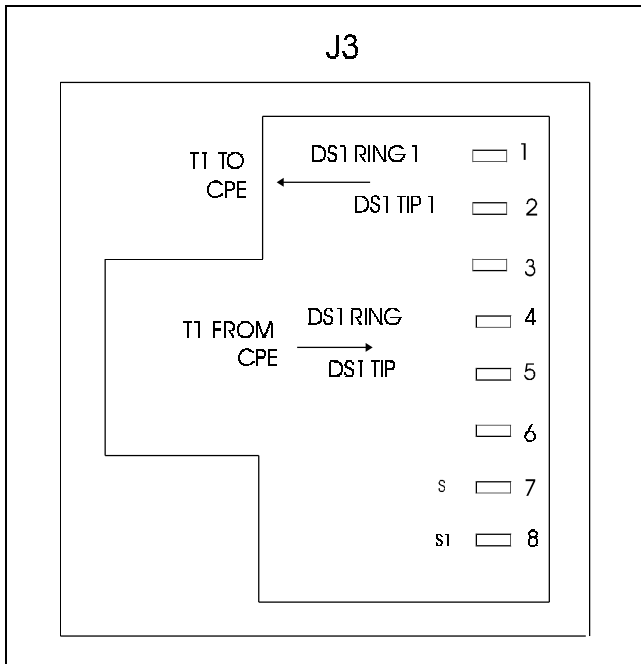
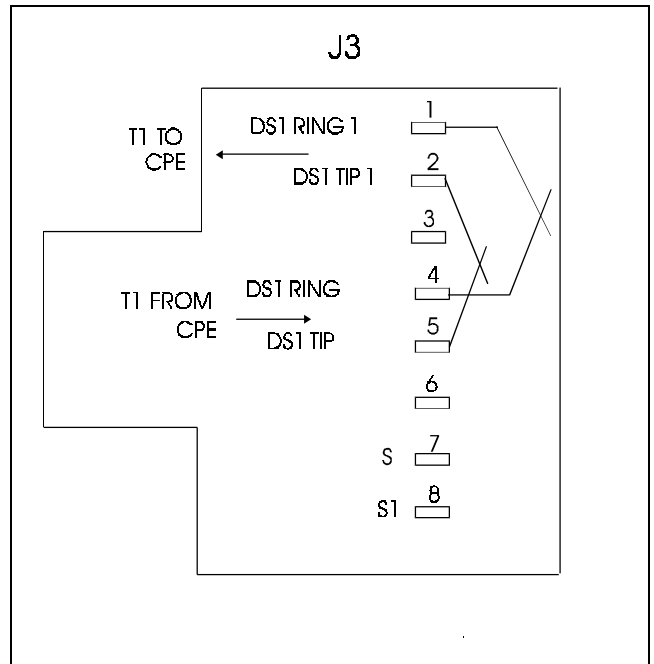

Figure 5. List 1 RJ-48C Pin Assignments.
Figure 6. List 2 RJ-48x Pin Assignments.
Attach earth ground to FRAME GND if local practice dictates. Terminals 3 & 8 of TB1 are connected to pins 7 & 8 (S & S1) respectively of J3 in Figures 5 & 6. They are used to terminate the shields from the two CPE DS1 pairs and are provided for DS1 shield continuity if desired. These terminals are not connected to either Circuit or Frame Ground, but may be wired to either if required. The -48 V battery connection to TB2 is only required when using an HRU-412 that is provisioned for local powering.
7.03 DS1 Connections to CI: The DS1 CPE interface ports may be connected to either the RJ-48C (Fig.5)/RJ-48X (Fig.6) jack (J3), located on the rear panel of the HRE-421, or directly to TB1. If TB1 is used, connect the DS1 output from the CPE to terminals 9 and 10. Connect the DS1 input to the CPE to terminals 6 and 7. Note if TB1 is used for the CPE access when using the List 2 HRE-421, the shorted pins in the RJ-48X jack J3 must be opened. This is accomplished by inserting a dummy RJ-48 plug into J3.